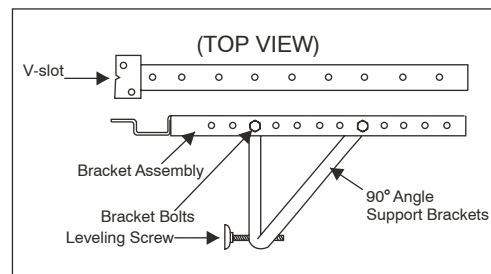
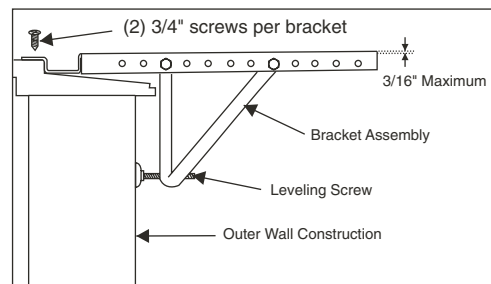
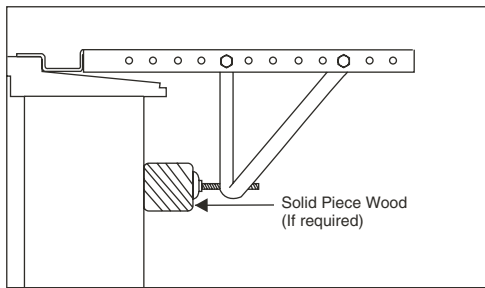

Fig. 10 – Bracket Assembly
Fig. 12 – Depth/Angle Illustration
Fig. 13 – Solid Piece of Wood Placement
A. Attach the bracket assembly to 90 angle support brackets (Fig. 10) using (2) 1 1/2" bolts, two bolts per bracket. Secure with the (2) 1/4" lock washers and (2) 1/4"nuts. **DO NOT** immediately tighten these bolts as it may be necessary to adjust the depth of the bracket assembly, depending on the depth of your window sill. See (Fig. 12). Install the two leveling screws into the 90 support brackets. Test the bracket assembly in the window before cabinet installation. If the leveling screws are distanced too far away from the wall to provide stability, it may be necessary for you to fill this area with a solid piece of wood. See (Fig. 13).
C. For proper condensation run-off it will be necessary to adjust the angle/pitch of the window brackets. This is accomplished by adjusting the distance of the leveling screw on the outer wall. The maximum angle/pitch should not exceed more than 3/16". See (Fig.12).
Use a solid piece of wood to provide stability. This will be required when sills are extra deep (see Fig. 13).
- C. Check to make sure that the cabinet is slanted slightly downward on the outside. If necessary, re-adjust support bracket as shown in (Fig. 12).
- B. Reinstall the slide-out-chassis security screws (removed earlier) on both sides of the cabinet (see Fig. 12). Secure the top of the frames to the window sash with (2) 3/4" screws.
- C. Now, secure bottom frame of shutters using one shutter clamp and one 3/4" screw on each side (see Fig. 12).